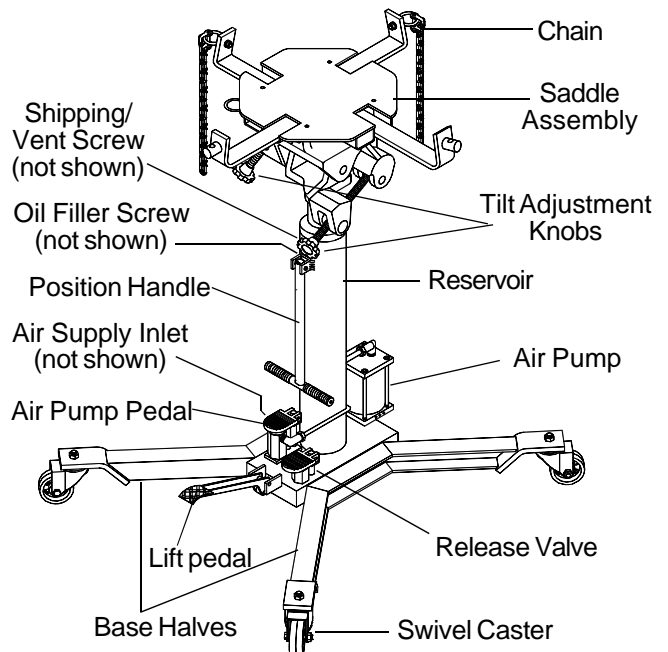

Figure 2 - Model JTA1000 Components
1. Pour a teaspoon of good quality air tool lubricant into the air supply inlet (See Figure 2). Connect to air supply and operate for 3 seconds to evenly distribute lubricant.